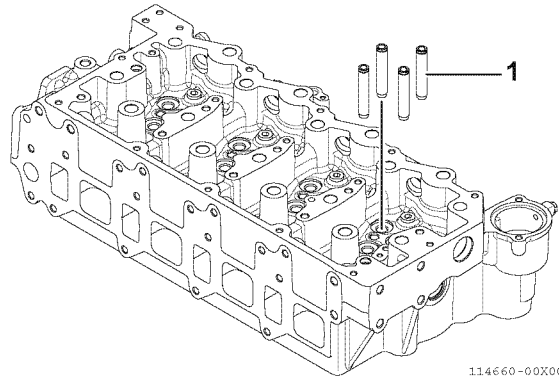

Fig.14-31
2. Immediately after taking out the valve guides (1, Fig.14-31) from the freezer, insert them in the specified positions.